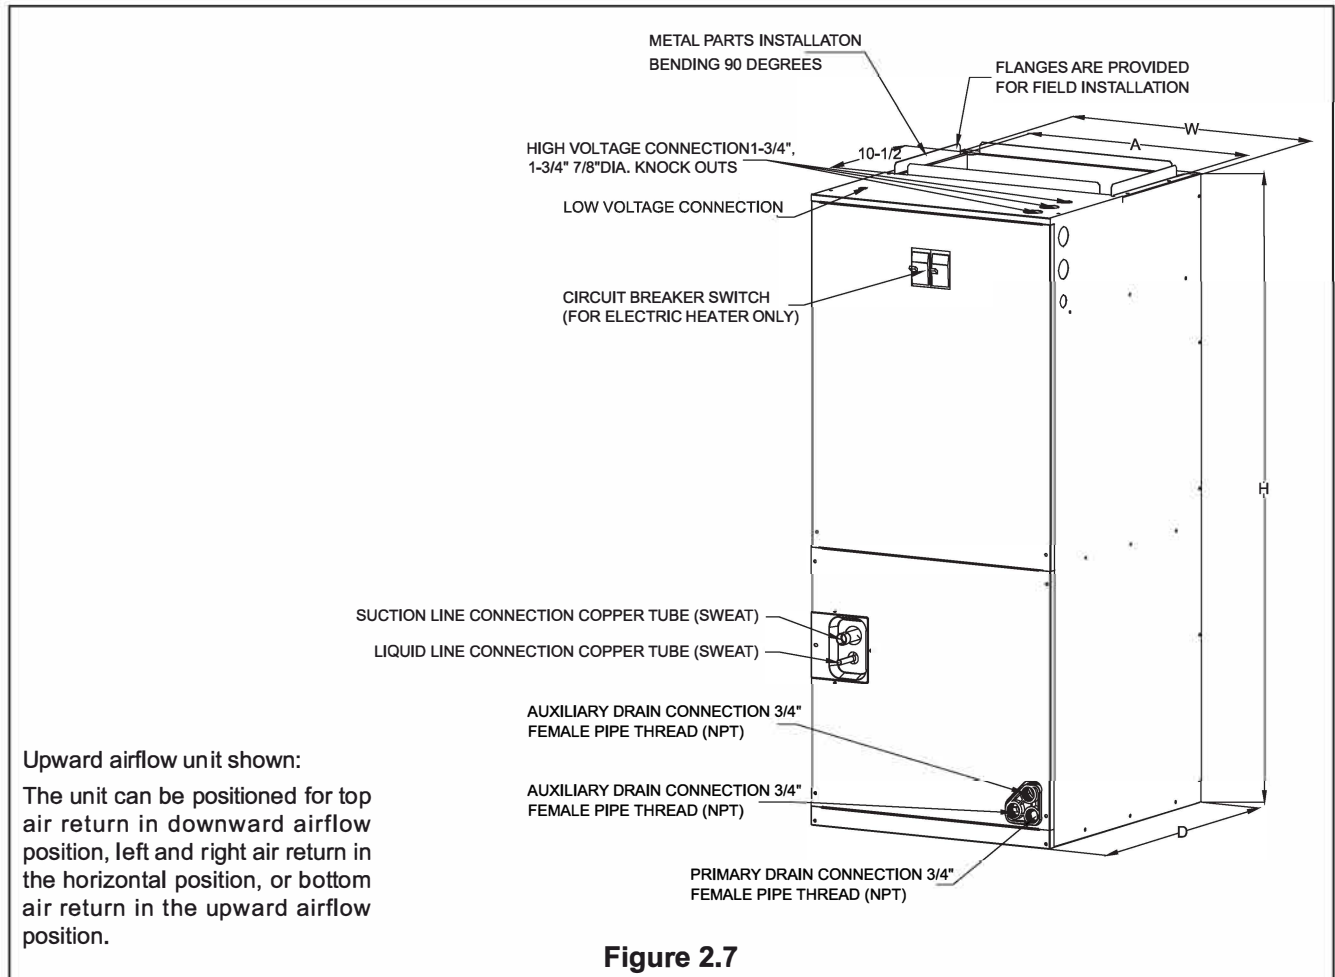

Figure 2.7
- The vertical upward airflow configuration is the factory default configuration of all models (see Figure 2.7).